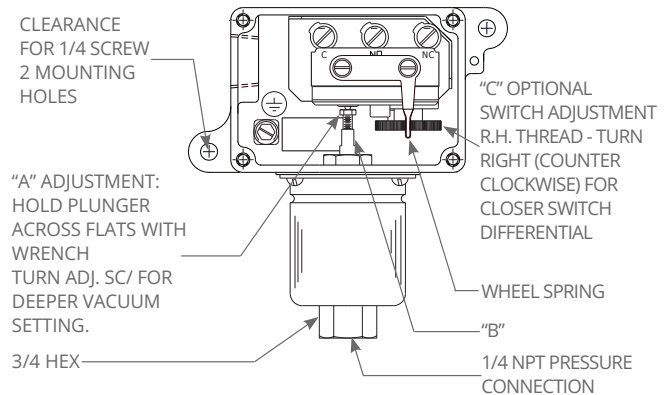

Figure 2: MODELS 126, 134, S126B, S134B, 218-230, 610-614, 680
**NOTE:** For models 126-134 & S126B-S134B, use 3/16" open-end wrench to keep item B (Figure 2) from turning.
Types with option code 1520 incorporate a snap switch with integral adjustment wheel (Item C in Fig. 2).